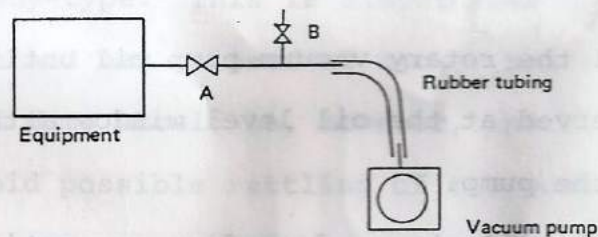

Fig. 2
- 1) Close the vacuum valve (A) (as shown in Fig. 2) and open the leak valve (B).
- 3) Close the leak valve (B) when the pump is rotating at a constant speed.